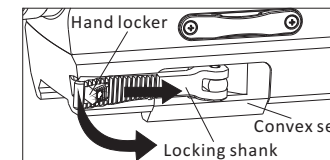

Fig3
2. Designed with our patented nonlinear cam clamping technique, without other tools for mounting rail, push back the locker, life up hand shank to loosen the convex set, Inserting the device on rail, push down the hand shank, locker will be auto locked, the installation complete. (see fig 3)